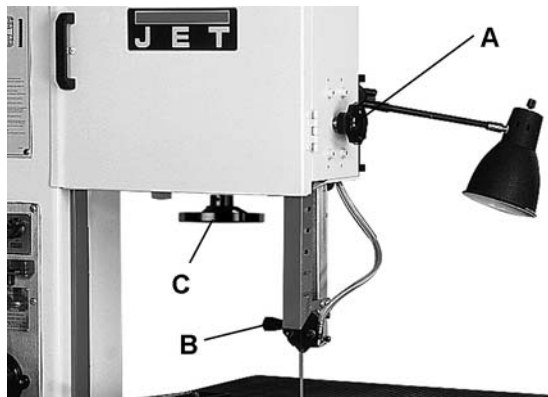

Figure 7
1. Raise upper blade guide by loosening lock knob (A, Figure 7) and lifting blade guide handle (B, Figure 7) to its highest position.
3. To tighten blade, turn handwheel (C, Figure 7) clockwise. To loosen blade, turn handwheel counterclockwise.